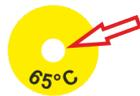

Fig. 25: Temperature indicator light: Temperature is okay.
1. Check that the temperature indicator is in a proper state (Fig. 25).